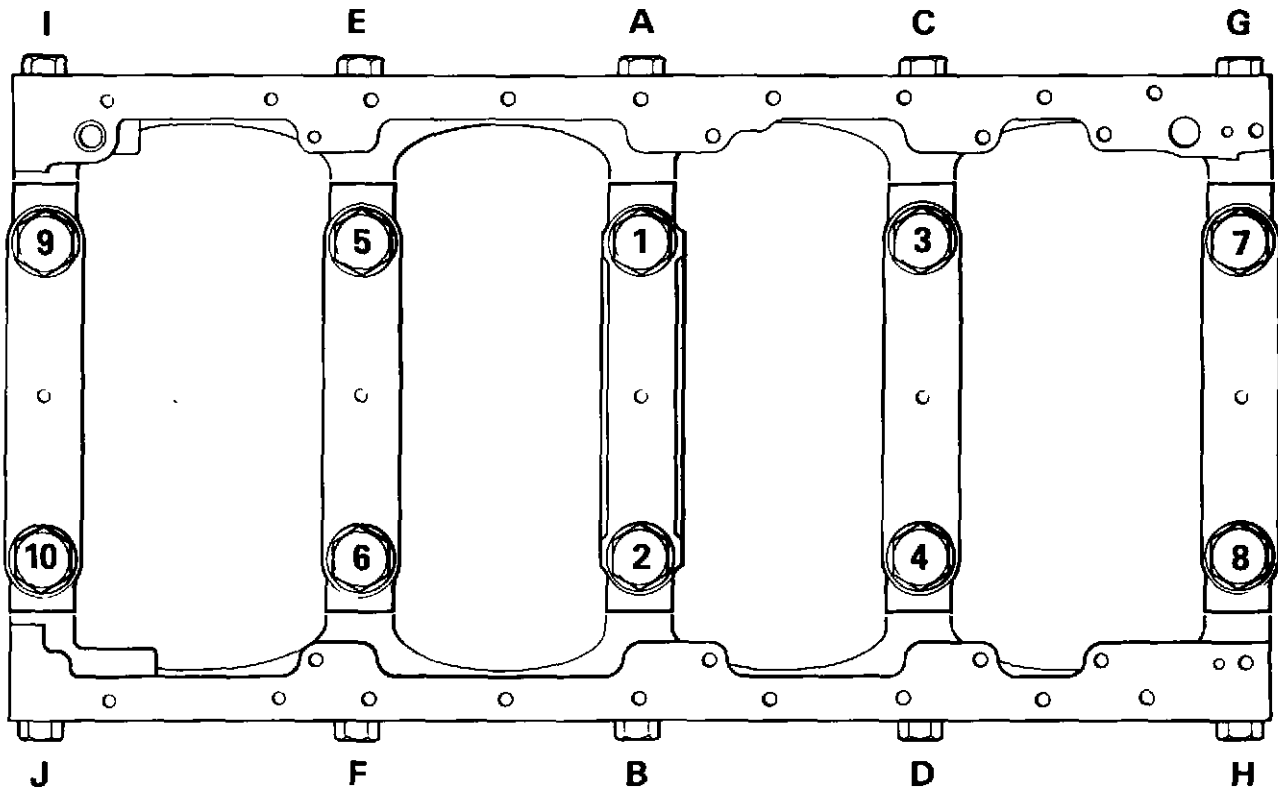

Fig. 3 Main bearing cap bolt tightening sequence.
9. Ensure that each main bearing cap machined side face is flush with the corresponding face of the crankcase then tighten the main setbolts to a torque loading of 488 Nm (360 lbf. ft.) in the sequence given in Figure 3.